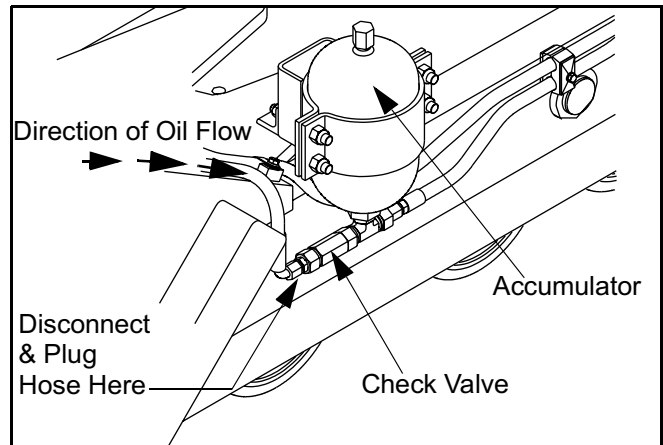

Figure 5 - 18 Track Tension Accumulator
- 1) Install pressure gauge (3000 psi) at test port marked BTM on the tension release valve (Figure 5 - 19).